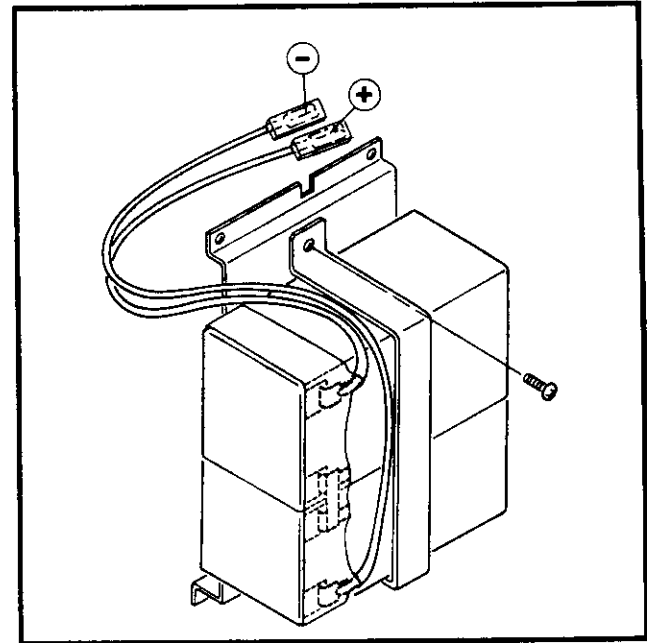

FIGURE 11—PEAK LOAD BATTERY
- 14) To install the peak load battery pack (supplied), first remove the four connecting screws from the peak load mounting bracket. Refer to Figure 11 for the location of these screws. The peak load battery is used to maintain maximum system power during peak traffic conditions. This battery does not provide Reserve Power backup. If Reserve Power is to be installed, refer to Paragraph 13.20 for the required procedures.
- 15) Mount the peak load battery on the mounting bracket, with the battery terminals facing toward the power supply (see Figure 11).
- 16) Connect the orange lead of the provided cable to the positive battery terminal which is located on the lower rear of the power supply (see Figure 11).